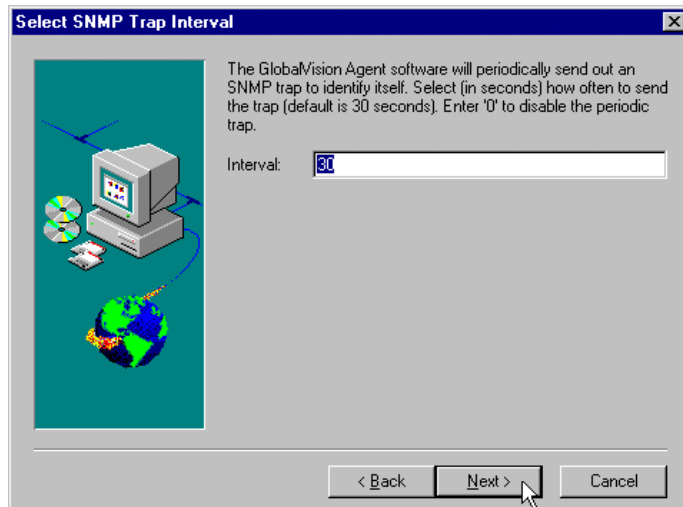

Figure 41 – Select SNMP Trap Interval dialog box
13. The **SELECT SNMP TRAP INTERVAL** dialog box appears. The GlobalVision Agent sends out SNMP information across the network every number of seconds. The number of seconds may need to be lengthened or shortened, depending on the activity on the network or the amount of time it takes for the operating system to boot. Enter in the number of seconds in the INTERVAL text box. Click **NEXT** to continue installation. See Figure 41.